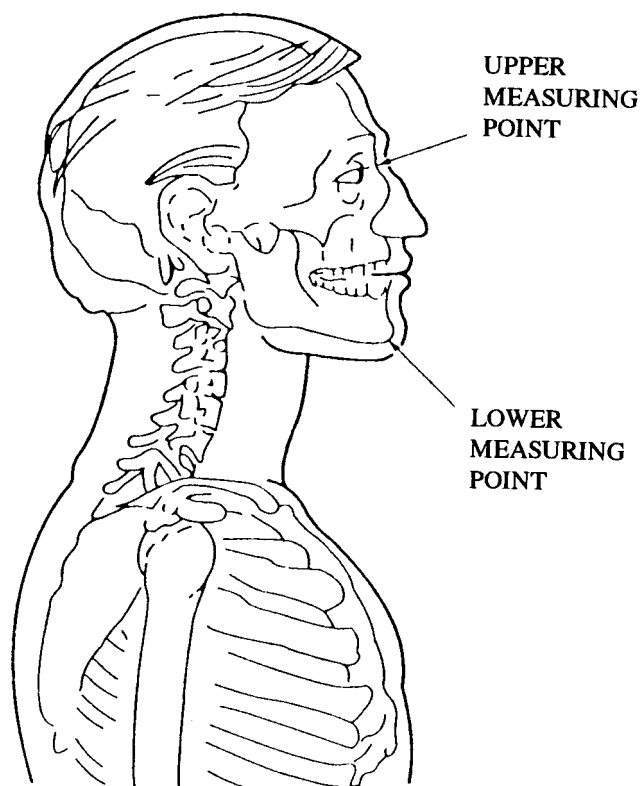

Figure 3-2. Facial Measuring Points
- a. Accurate location and marking of the two facial measuring points is necessary to assign correct mask size. The two points are described below and depicted in Figure 3-2. Read descriptions and study the figure carefully before attempting to locate the two points on user's face. The points can be located either by visual inspection or by feel.
- (1) The upper measuring point is the point of deepest depression at top of nose, between the eyes (see Figure 3-2).
- (2) The lower measuring point is located at the center of the curved part of jaw bone (tip of chin; see Figure 3-2).